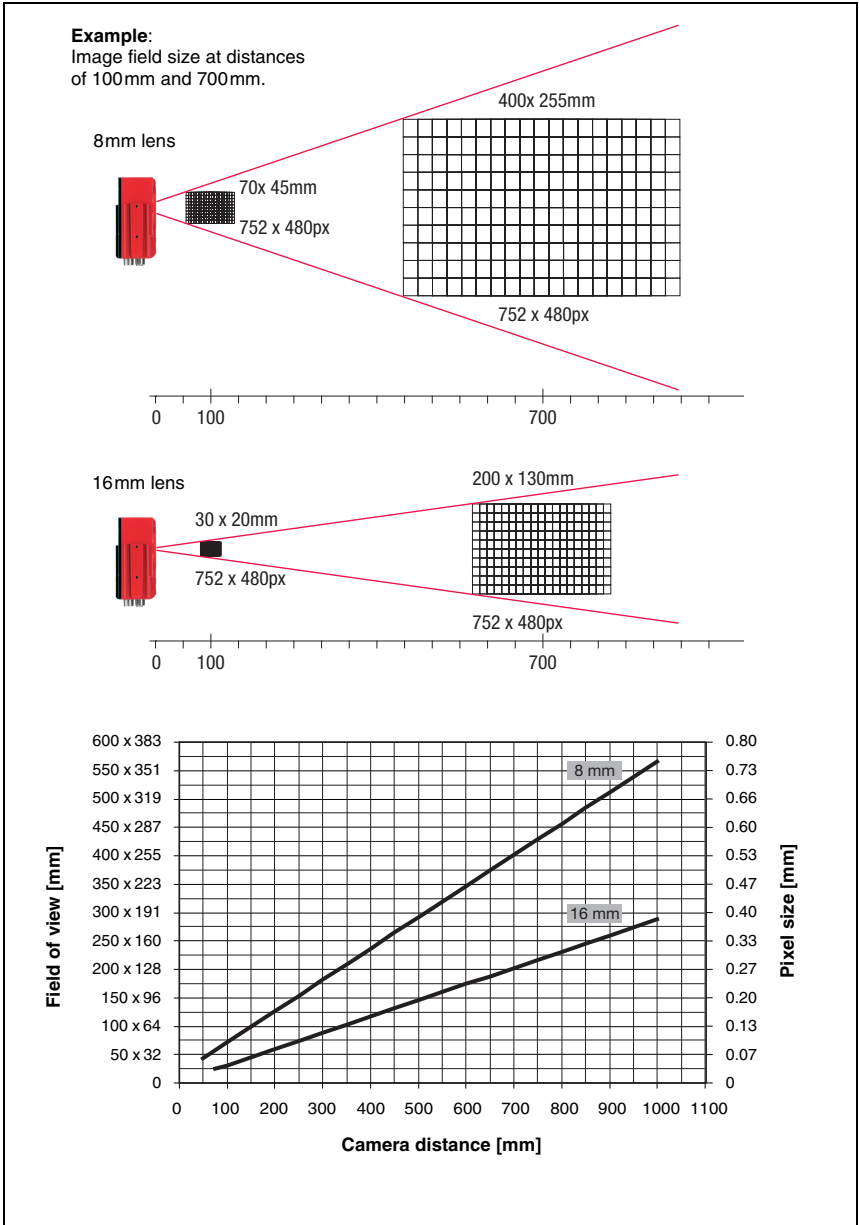
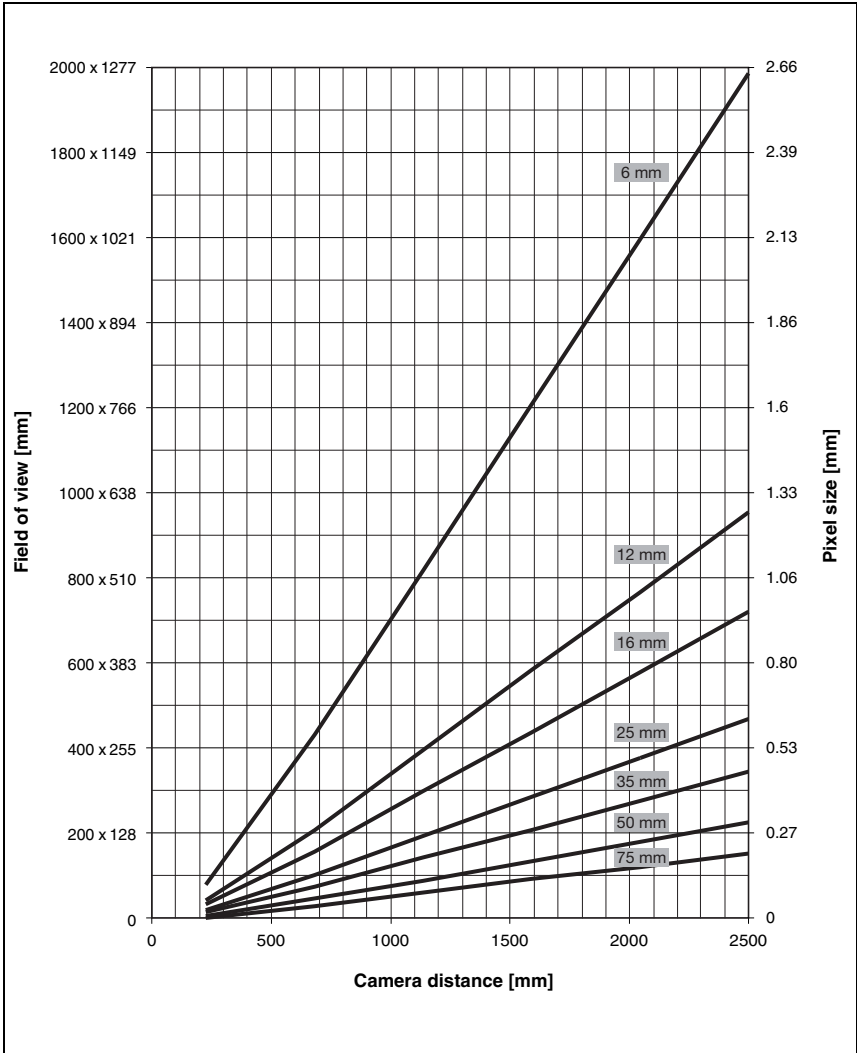

Figure 4.6: Camera distance / image field - standard devices
Figure 4.7: Camera distance / image field - device models for C-mount interchangeable lenses
- The camera distance which results from the respective field of view (see figure 4.6 on page 23 or figure 4.7 on page 24).
In figure 4.6 and figure 4.7, the principle relationship between camera distance and the resulting image field is represented for the C-mount device models.
The diagram in figure 4.6 shows the relationship between camera distance (= path from the front edge of the camera to the object) and image field for standard devices with 8mm and 16mm focal length. In figure 4.7, this relationship is represented for the C-mount device models.